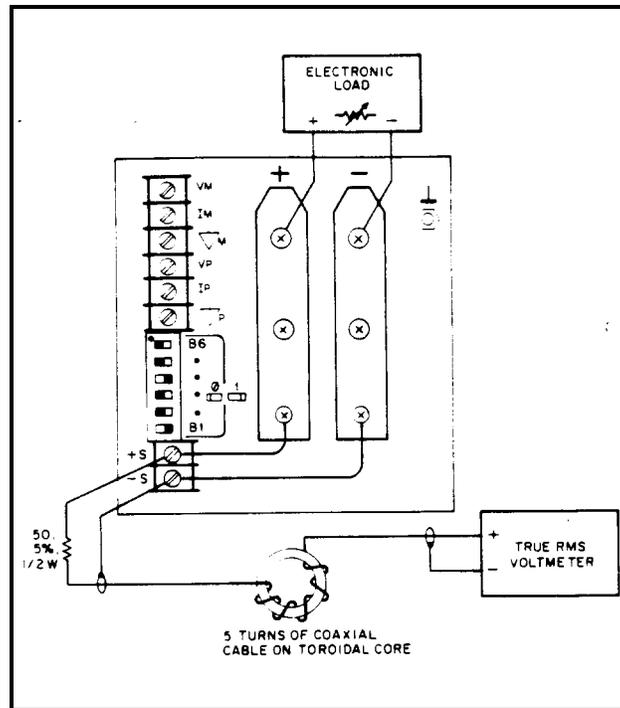

Figure 2-6. RMS Measurement Test Setup, CV PARD Test
RMS Measurement Procedure. Figure 2-6 shows the interconnections of equipment to measure PARD in V_{rms} . To ensure that there is no voltage difference between the voltmeter's case and the unit's case, connect both to the same ac power outlet or check that the two ac power outlets used have the same earth-ground connection.
- a. Connect the test equipment as shown in Figure 2-6. Operate the load in constant resistance mode (Amps/Volt) and set resistance to maximum.